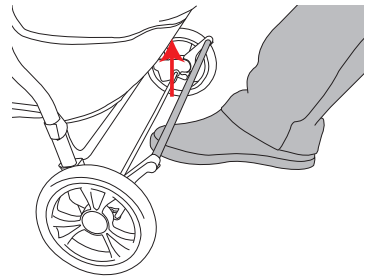

Figure 7
- To release the brakes, gently lift up on one of the brake levers or the bar that connects the levers. See Figure 7.